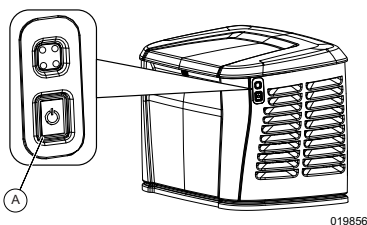

Figure 3-6. External Generator Emergency Shutdown Switch (all models)
See Figure 3-6. A generator emergency shutdown switch (A) is located on the exterior of the generator side panel. This generator emergency shutdown switch shuts down generator and disables restarts.